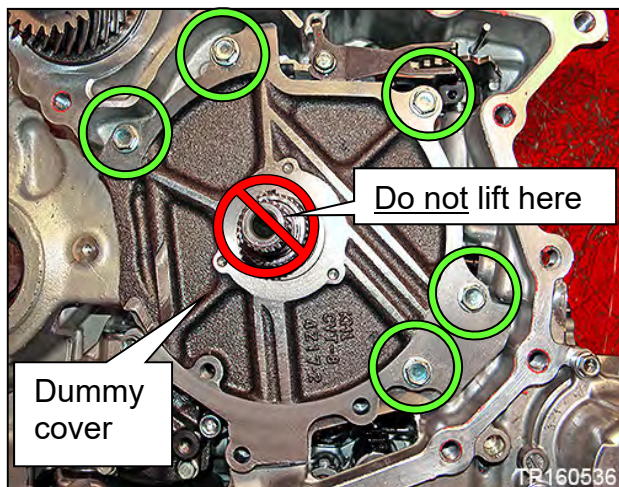

Figure 47
29. Remove the five (5) dummy cover bolts, and then remove the dummy cover. See Figure 47.
- Lift the dummy cover from sides **ONLY**. Do **NOT** lift from the input shaft (Figure 47). This can lift the clutch pack out.